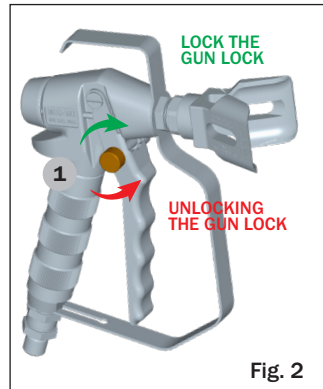

Fig. 2
1.- In order to engage the safety (block the opening in the trigger of the gun), move the **trigger forward** (locked position) and **turn the lever** (no. 1 - figure 2) **until it butts against the gun body**. Check that the **trigger is locked**.
2.- In order to disengage the gun safety, push the **trigger forward** (closed position) and **turn the lever** (no. 1 - figure 2) **until it butts against the trigger itself**.
1.- **Set the gun safety catch** (No.1, fig.2).